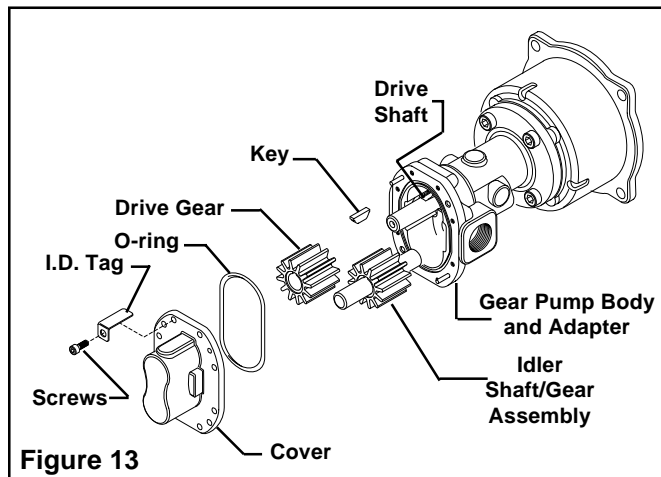

Figure 13
2. Remove the Screws securing the Cover from the Gear Pump Body and Adapter. Do not remove the Pressure Relief Valve from the Cover on Models thus equipped (See Figure 13).
3. Remove and discard the O-ring from the Gear Pump Body and Adapter (See Figure 13).
4. Slide the Idler Shaft/Gear Assembly out of the Pump Body and Adapter (See Figure 13).
5. Slide the Drive Gear off the Drive Shaft (See Figure 13).